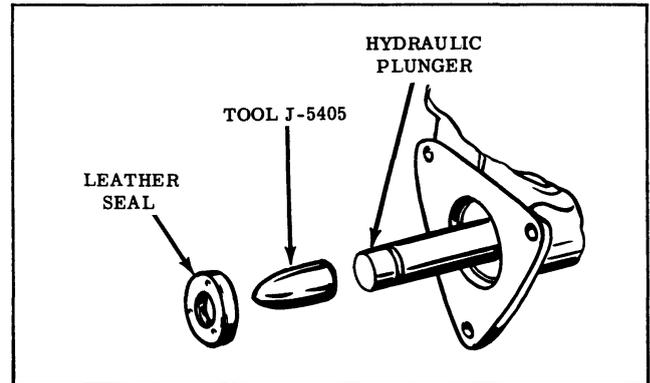

Fig. 7-49 Installing Leather Seal
8. Install Seal Tool J-5405 on the plunger, then slide the leather seal over the tool with the seal lip facing hydraulic cylinder and position seal into recess of master cylinder. (See Fig. 7-49)